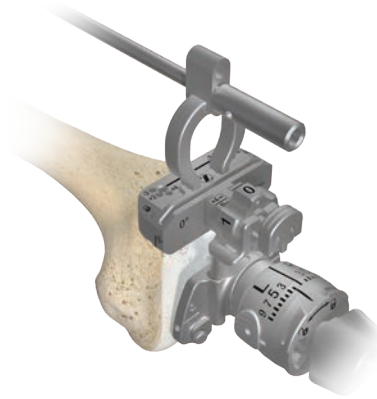

Figure 11
**ⓘ Technique Tip:** Confirm valgus alignment by inserting the drop rod adapter into the large holes on the anterior face of the cut guide and insert an alignment rod into the drop rod adapter (Figure 11).